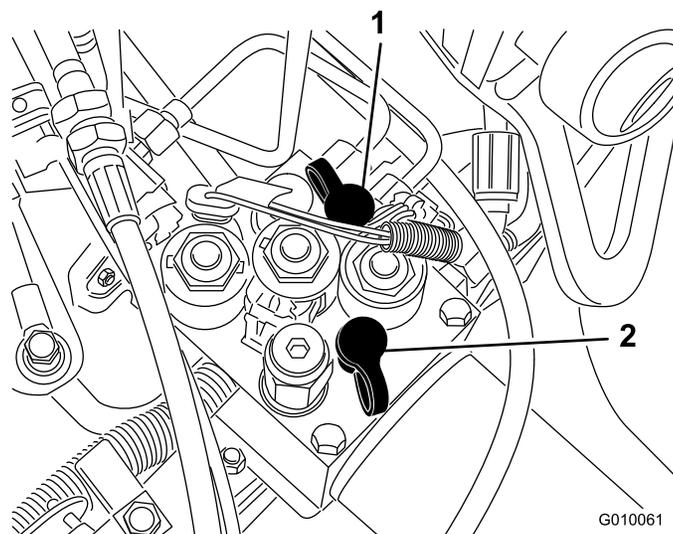

Figure 61
- Test Port G 1 (Figure 61) is used to assist in troubleshooting the lift circuit pressure.
- Test Port G 2 (Figure 61) is used to assist in troubleshooting the traction charge circuit.